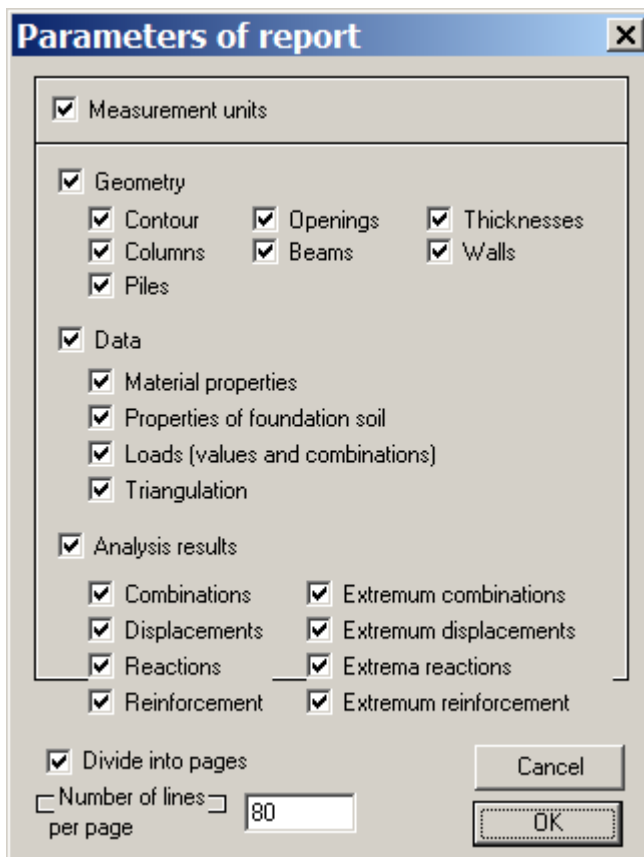

Figure 2.6.1 **Parameters of report** dialog box
- ⇒ In the **Parameters of report** dialog box (see Fig.2.6.1), remain all parameters as defined by default.